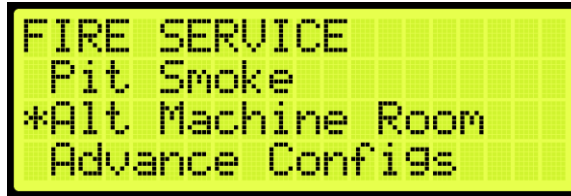

Figure 605: FIRE SERVICE Menu – Alt. Machine Room
2. From the FIRE SERVICE menu, scroll and select Alt. Machine Room (See Figure 605).
1. Navigate to MAIN MENU | SETUP | FIRE (See Figure 605).